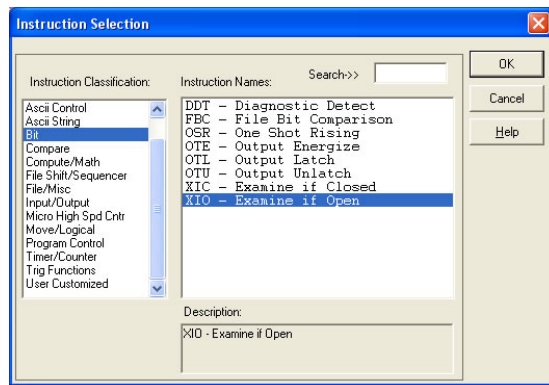

Figure 69: XIO Instruction Selection
- Select the “XIO” instruction from the “Bit” classification, then click OK. Refer to Figure 69.